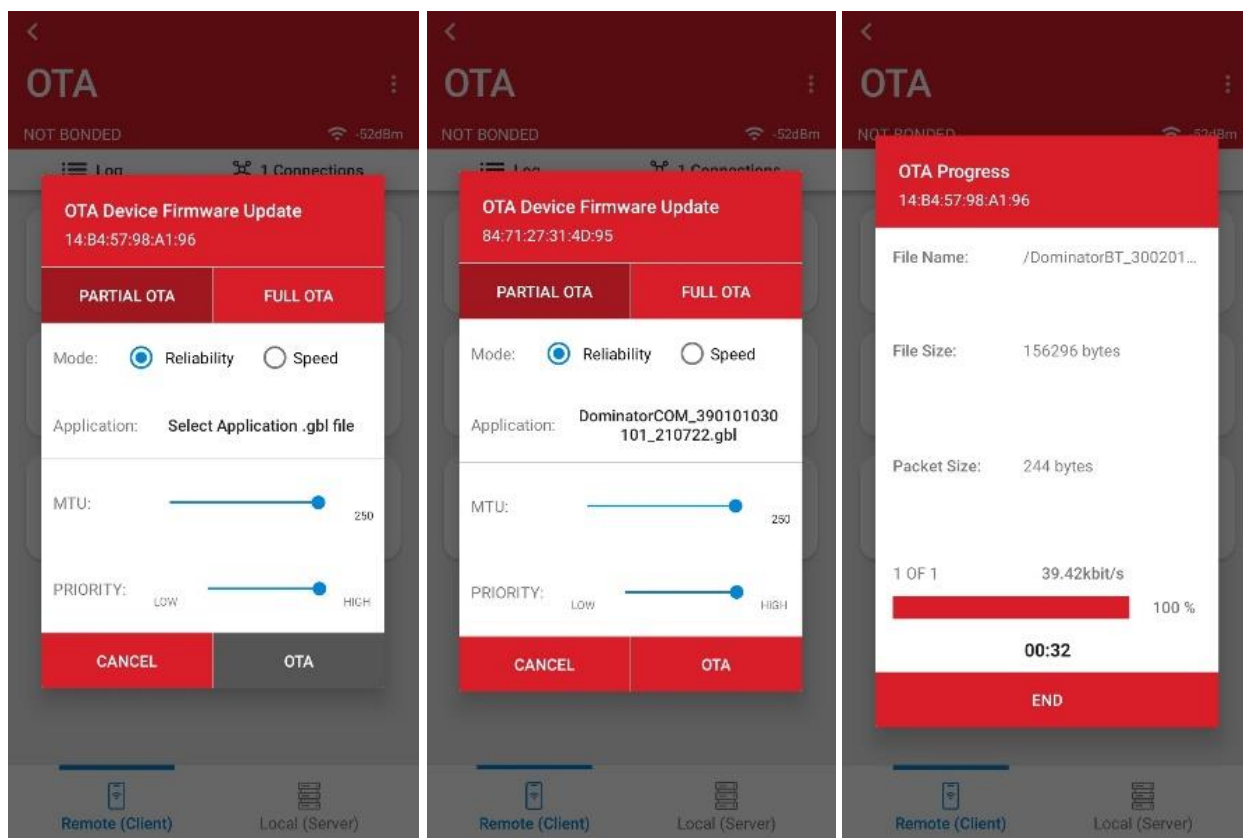

рис. 4.4. Choosing the firmware file
- 7) Next, in the window that appears, select the file with the firmware and click «OTA» (рис. 4.4).